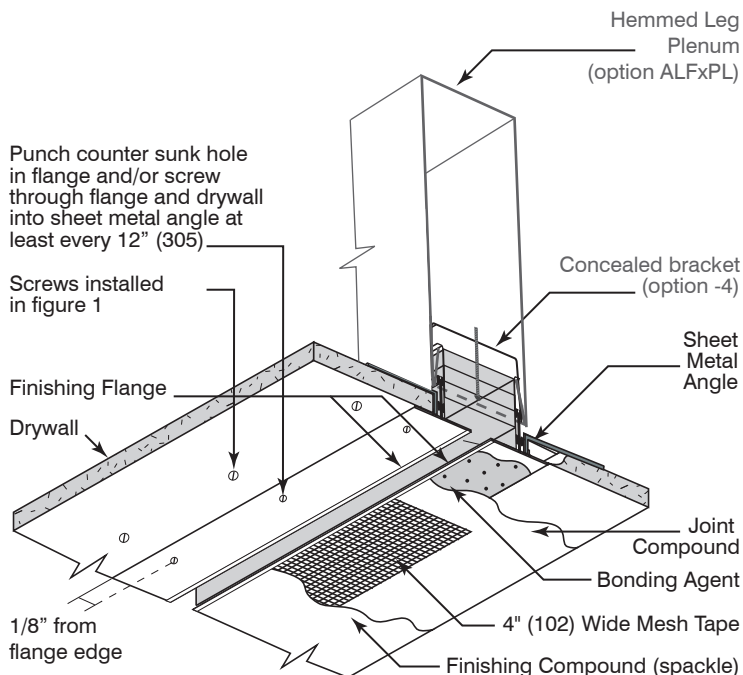

Figure 2
2. Secure the linear diffuser in the ceiling with either concealed mounting brackets on drywall or in a hemmed leg plenum (see page 1 above) or without the concealed mounting brackets directly into a plenum or framing member. Punch counter-sunk holes in flange and/or screw through the flange of the linear diffuser and through drywall into the sheet metal angle at least every 12" (305) with drywall screws 1/8" from the edge of the linear diffuser flange. See Figure 2.
5. Apply a first coat of joint compound (ex. Dura bond by US Gypsum) onto diffuser flange and extend 3" (76) from edge of flange onto drywall.
6. Embed 4" (102) wide mesh tape into joint compound and add another layer of joint compound atop the mesh tape and smooth. Let dry completely before moving to the next step.